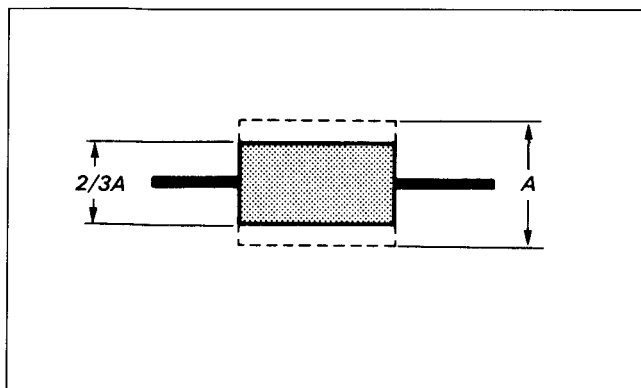

Fig. 7-79.
- 2) Set the SEL switch of the track shift & monitor jig to ON, and turn track shift knob until the RF waveform amplitude is $2/3$. (See Fig. 7-79.)